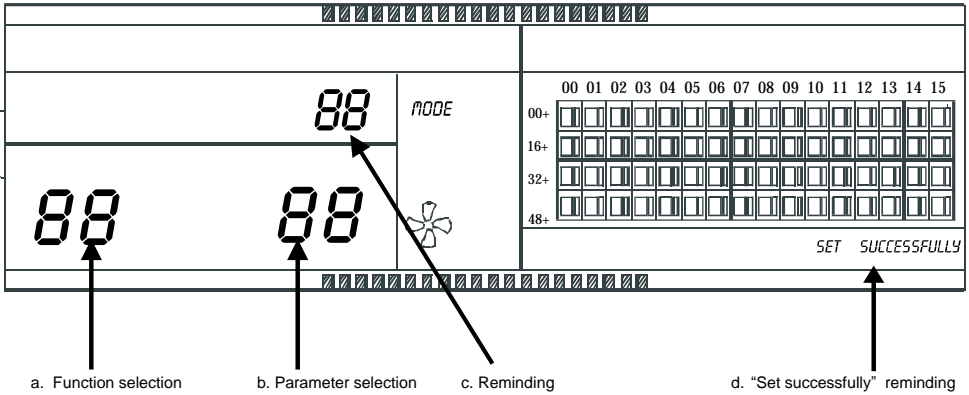

Fig 2.9 Filter net in addition to the dust function involves of show a contents
① Dial the dial code 3 to "ON", select the "Has optional function" referring to table 2.1 to , and then power on the centralized controller, in 1 minute press "  " key and hold on then press "  " key, enter to optional function setting. Dual eight represented function selection (Fig.2.9 a) will be flashed with 1Hz frequency (default display 00), display the optional function code (see table 2.2). Press "  " and "  " keys to select function, and then press "  " key to enter parameter selection.
②After enter parameter selection, dual eight represented function selection will be lighted on, dual eight represented parameter selection (Fig.2.9 b) will be flashed with 1Hz frequency, display optional parameter code. Through pressing "  " and "  " keys to select the detailed parameter.
③Press "  " to confirm parameter selection(details parameter codes' corresponding time refer to table 2.3).
④After setting successfully, Dual eight represented function selection and dual eight represented function selection will be lighted on, the screen will display "Setting successfully" (Fig. 2.9 d). After 3 seconds will auto exit optional function setting. The screen will back to normal display.